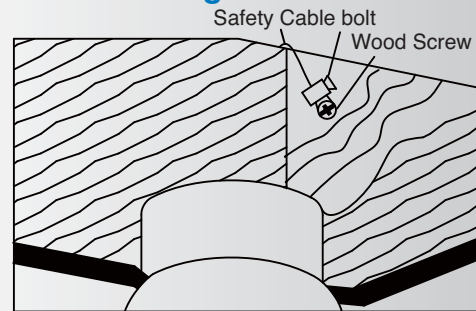

Fig. 12-2
Step 2. Adjust the length of the safety cable to reach the screw and washers by pulling the extra cable through the cable clamp until the overall length is correct, put the end of the cable back through the cable clamp, forming a loop at the end of the cable. Tighten the cable clamp securely. Now, put the loop in the end of the safety cable over the wood screw and under the washer. Tighten the wood screw securely. See Fig. 12-2